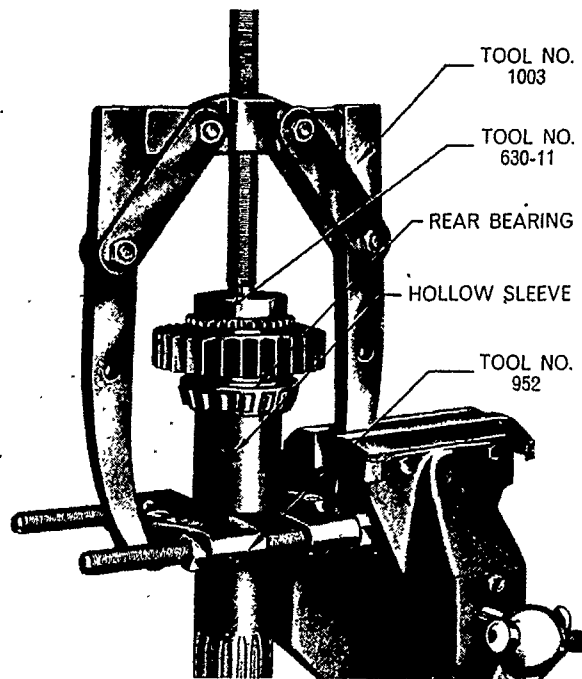

Figure 83
4. If necessary, install the rear bearing on the main countershaft using Tools Nos. 1003, 952, 630-11 and a sleeve $2\frac{1}{16}$ in. (52.4 mm) I.D. and $2\frac{5}{16}$ in. (58.7 mm) O.D. of convenient length, Figure 83.